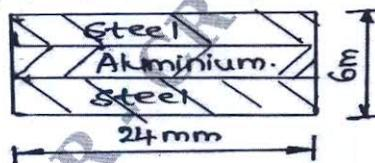

Fig. Q2(b)
b. A compound bar is made up of Aluminium plate and steel plate as shown in Fig. Q2(b). The length of the compound bar at temperature 20°C is 100mm. If the temperature of the whole assembly is raised by 60°C , determine the stress in each of the material. Further if new compressive load of 20kN is applied to the composite bar. What are the final stresses in steel and aluminium?